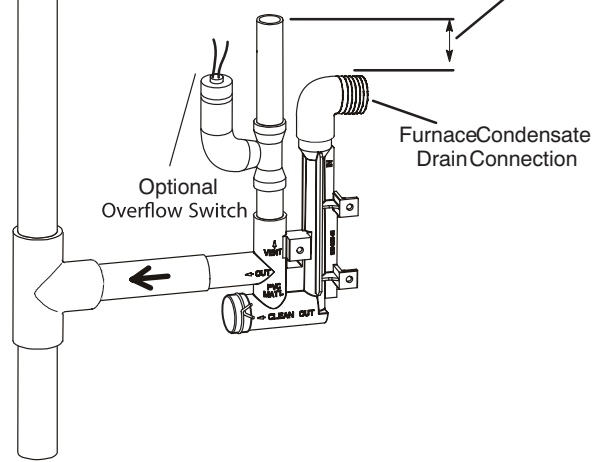

FIGURE 52
- 5 - "FIGURE 51" and "FIGURE 53" shows the furnace and evaporator oil using a separate drain. If necessary the condensate line from the furnace and evaporator coil can drain together. See "FIGURE 52", "FIGURE 54" and "FIGURE 55". **Upflow furnace ("FIGURE 54")** - In upflow furnace applications the field provided vent must be a minimum 1" to a maximum 2" length above the condensate drain outlet connection. Any length above 2" may result in a flooded heat exchanger if the combined primary drain line were to become restricted. **Horizontal furnace ("FIGURE 55")** - In horizontal furnace applications the field provided vent must be a minimum 4" to a maximum 5" length above the condensate drain outlet connection. Any length above 5" may result in a flooded heat exchanger if the combined primary drain line were to become restricted.